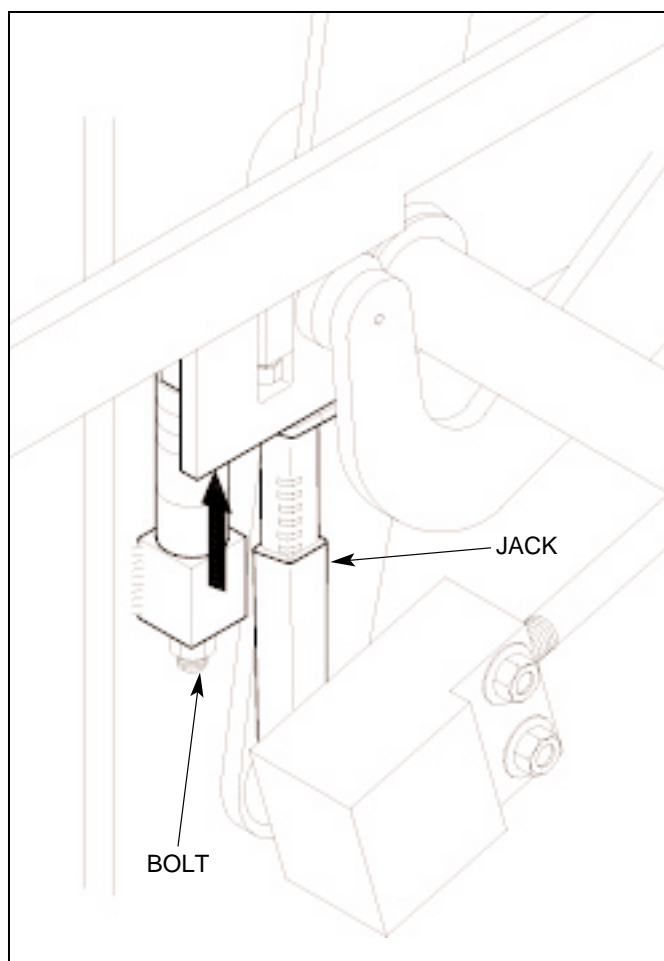

Figure 4.45 MEASURING COLUMN OF SPACERS
- 4.3.21 Loosen bolt of column spacers at all four corners (see figure 4.45).
- 4.3.22 Use a jack on all four corners to raise frame. Take spacers out on all corners (see figure 4.45).
- 4.3.23 Now, insert a column of spacers **8 3/4" [222mm]** high between the side frame supports and the pallet feeder supports (see figure 4.45).